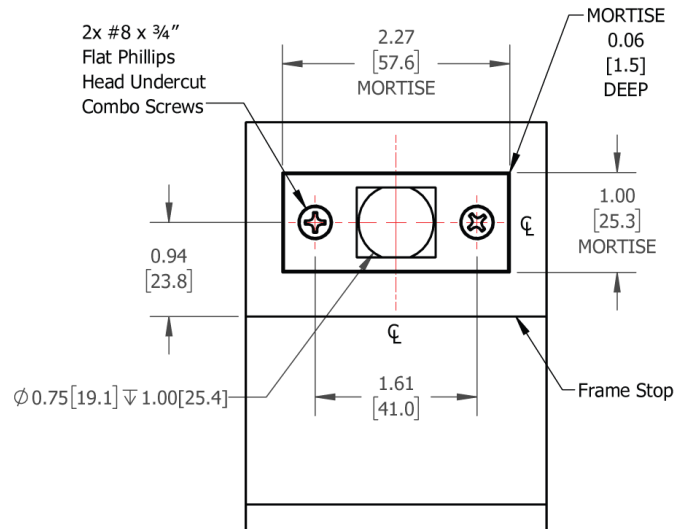
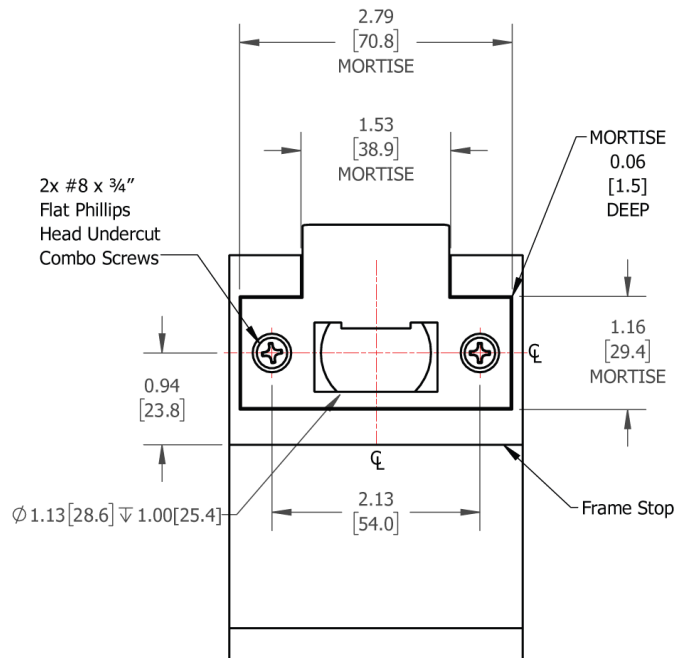

Figure 4: Automatic Flush Bolt Frame/Floor Strike
Figure 5: Self-Latching Flush Bolt Frame Strike
8. Using Figure 4 for 292S, Figure 5 for 293S and 2ea of the #8 x 3/4" Flat Phillips Head Undercut Combo Screws, install the Frame and/or Floor Strike